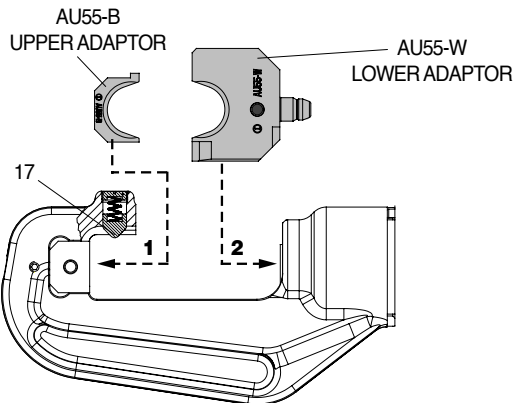

FIG. 3c
- Insert the upper adaptor AU55-B in the upper seat of the head (1); it will be held by pin (17) (see Fig. 3c).
- Insert the lower adaptor AU55-W into the seat of the ram (2) (see Fig. 3c).